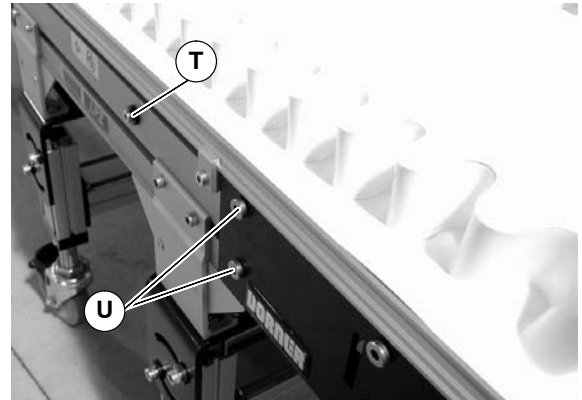

Figure 41
2. On the side of conveyor to be adjusted, loosen two (2) tail clamp screws (U of Figure 41).